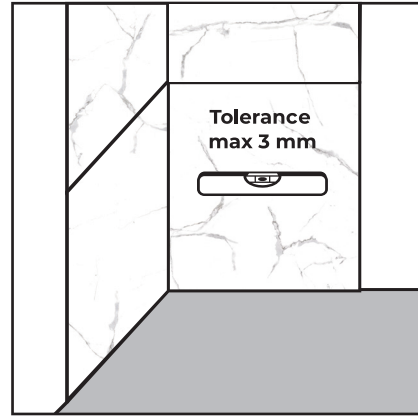

Figure 2
1. Check the flatness of the wall you are installing the panels on using a 5' level (Figure 2). The maximum allowable tolerance is 1/8 inch, anything more should be filled with some filler material that is fixed to the wall to even it out. Also check that the wall surface you are installing onto is dry and free of moisture. Clean all dust, grease or any other substance that may compromise the adhesion of the panel to the wall.
2. Be aware that every box has two panels. To have an optimal design view, these two panels have to be installed one on the top of the other, making the design continuity as shown in the (Figure 2).